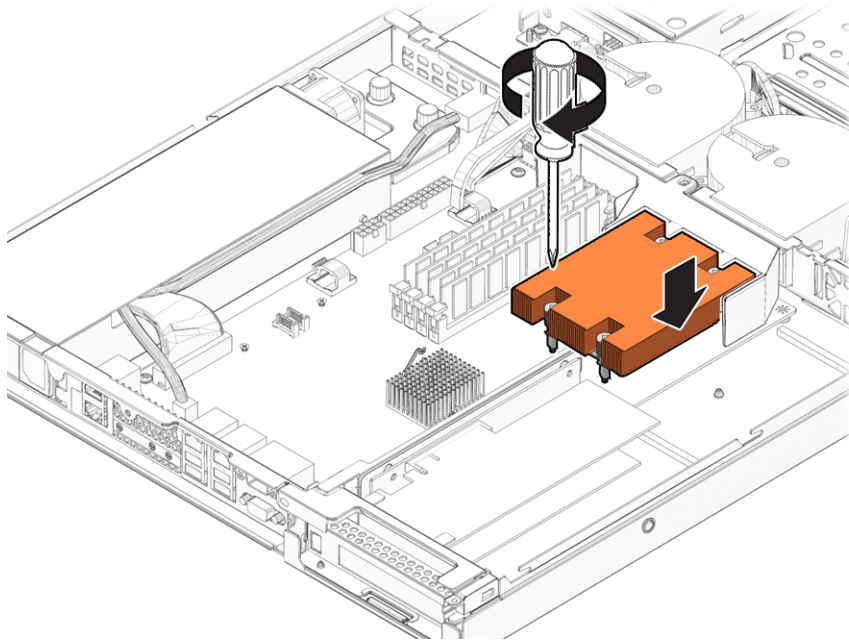

FIGURE 4-35 Installing the Heatsink
12. **Fasten the four screws attaching the heatsink to the motherboard. See FIGURE 4-35.**